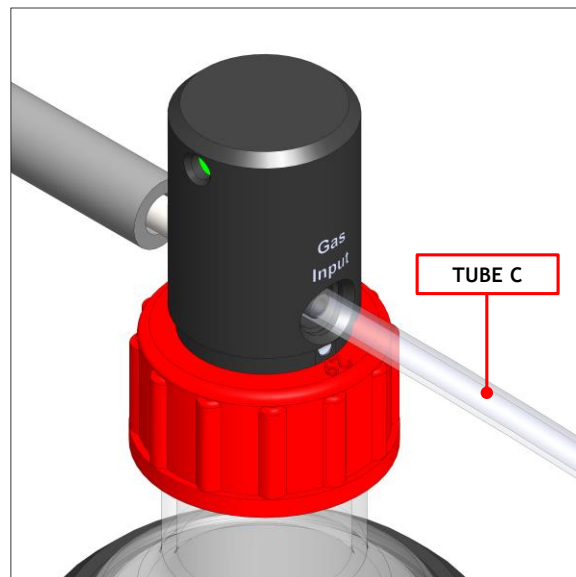

Figure 11. Gas Input connection.
4. Use TUBE C to connect the push to fit connector labeled “GAS Output” on the rear panel of HM-ACTIVE-STANDALONE to the port labeled “Gas Input” on the Humidity Sensor Lid (see Figure 11).